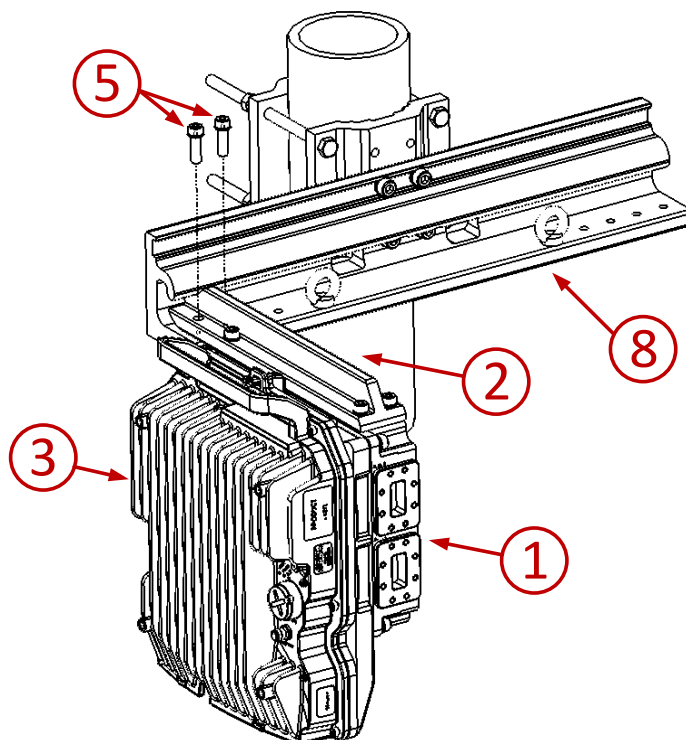

Figure 42: Securing the OCU-Radio Unit to the Branching Pole Profile
- 3 Partially attach the OCU-radio unit to the Branching Pole Profile with the two M8-30 screws included in the OCU kit, along with the remaining helical and flat washers, as shown in *Figure 42*. *It is very important that at this point in the procedure, you do not fully tighten the screws. The screws should only be fully tightened after all the U-Bends and (if necessary) Terminations have been attached!*
When you have finished installing all waveguides, and all of the radio ports have been covered, you must fully tighten the two M8-30 screws that attach the OCU-radio unit to the Branching Pole Profile as shown above in *Figure 42*.